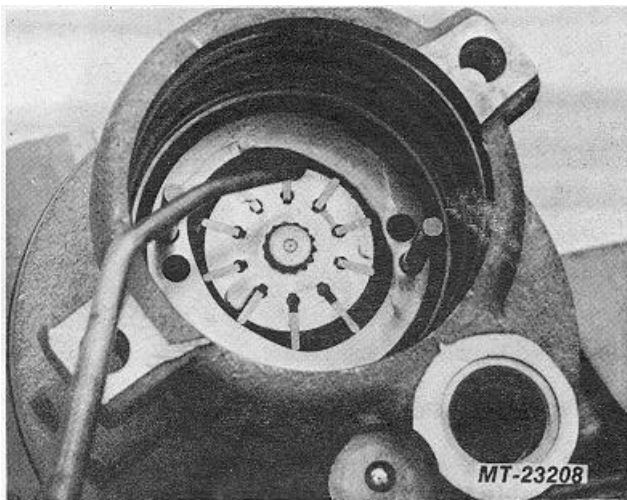

Fig. 29 Lubricate Rotating Group
7. Squirt power steering fluid onto vanes and rotor and ring cam (Fig. 29) (Lubrication prevents internal damage at initial start).